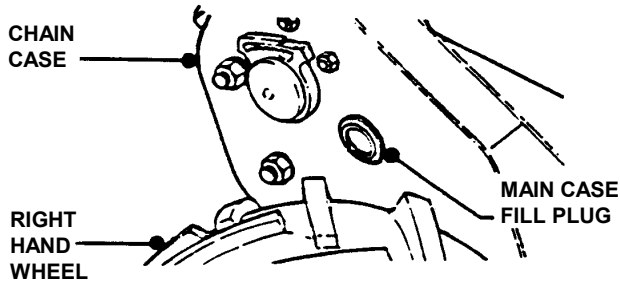

FIGURE 10
3.3.2. ADD LUBRICATION TO CHAIN CASE: To add grease, remove the filler plug located just forward of the pulley shaft on the right hand side. See Figure 10. Add Snapper Part No. 2-9577 Benalene 900 grease (4 oz. Bottle) as needed to bring level up to bottom edge of the check plug opening. The total capacity of the case is about 48 ounces. DO NOT exceed this amount. Reinstall check plugs after checking. NOTE: Also available Snapper Part No. 2-9296 Benalene 900 grease (32 oz. Bottle).